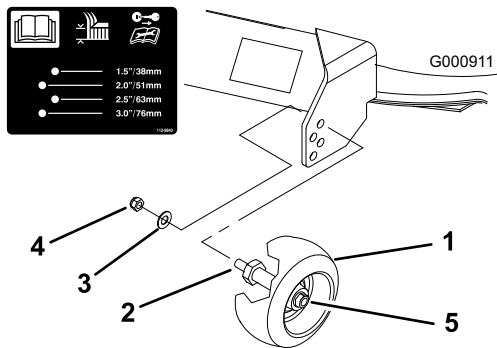

Figure 14
- A. After adjusting the height-of-cut, remove the nut and washer while holding the stud with a wrench (Figure 14).
Note: Do not remove the wheel nut and washer (Figure 14).
- B. Select a hole so that the gage wheel is positioned to the nearest corresponding height-of-cut desired (Figure 14).
3. Install the stud nut and washer (Figure 14).